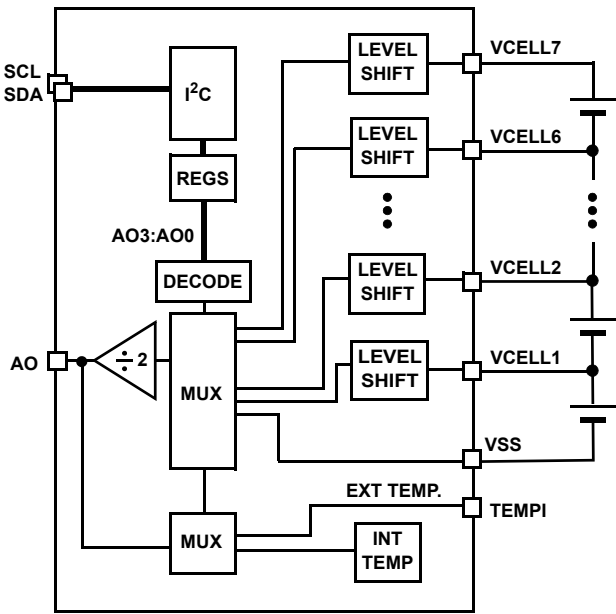

FIGURE 20. ANALOG OUTPUT MONITORING DIAGRAM
The ISL94208 devices can be used to externally monitor individual battery cell voltages and temperatures. Each quantity can be monitored at the analog output pin (AO). The desired voltage is selected using the I2C interface and the AO3:AO0 bits. See Figure 20 and Table 6 on page 17. Remember to reset the AO3:AO0 bits to '0000' after measurements to minimize unnecessary current draw from the cells.
| Jun 11, 2013 | FN8306.1 | Figure 1: Updated application diagram.Page 7: Changed Recommended Operating Conditions for WKUP voltage.Page 8: Reduced Max Limit for VFET1 and VFET2 current.Page 8: Added several operating conditions for VBACK current Specifications adjusted Max Limit to comply with the new conditions.Page 8: Reduced the Limits for VCELL Input Current (Non-Monitoring).Page 21: On the description of the WKPOL bit, added the comment, "When WKPOL=0, limit the maximum voltage on the WKUP pin to no more than the voltage on VBACK."Page 23: Changed the circuit in Figure 2 on the use of input filters and changed the related text.Page 23: Changed the circuits in Figure 3 regarding the recommended connection of fewer than 6 cells.Page 24: Added text describing the WKPOL=0 and WKPOL=1 operation and changed the example Wake up circuit in Figure 6.Page 25: Changed the comments in Figure 7 to clarify operation of external microcontroller control of wake up.Page 25 and 26: Added comments to Figure 8 and Figure 9.Pages 34 and 35: Updated the example applications circuits in Figure 20 and 21. |